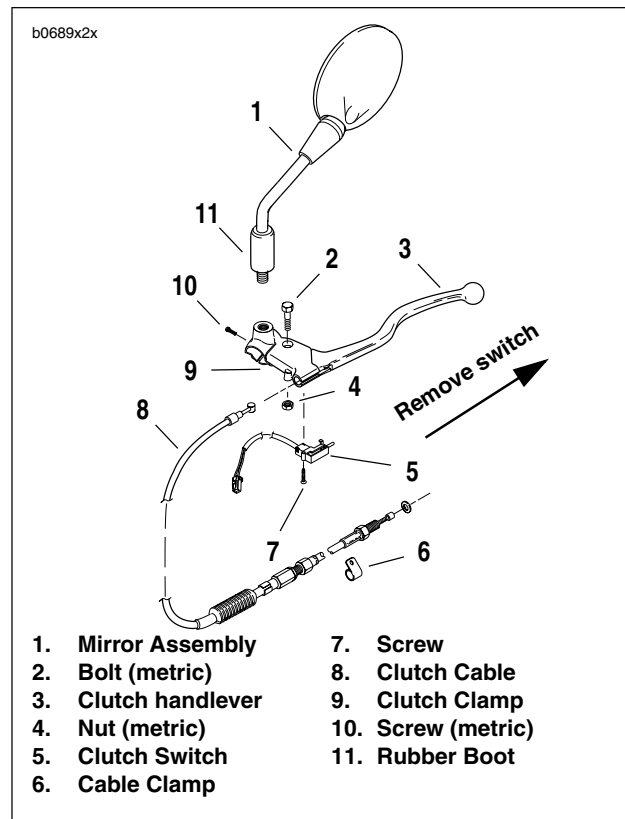

Figure 2-90. Clutch Hand Control
1. See Figure 2-90. Detach clutch switch (5).
- a. Remove screw (7).
- See Figure 2-90. Attach clutch clamp (9) as follows.
- Place clamp next to switchgear housing. Fasten to handlebar with screw (4) (metric). Tighten to 50-60 in-lbs (5-7 Nm).
- Install mirror assembly (1). mirror mounting has metric, left hand threads.
- Apply small amount of LOCTITE ANTI-SEIZE LUBRICANT to bolt (2). Attach handlebar with bolt (2) (metric) and nut (4) (metric).
- Attach clutch switch (5) with screw (7).